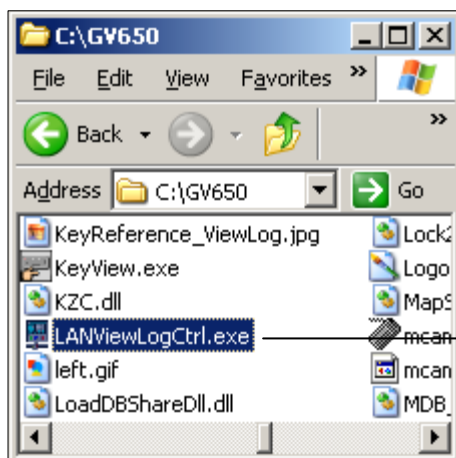

Figure 4-25-1
2. To download LAN ViewLog, locate **LANViewLogCtrl.exe** from the system folder (Figure 4-25-1), and copy and paste this program to your local computer.